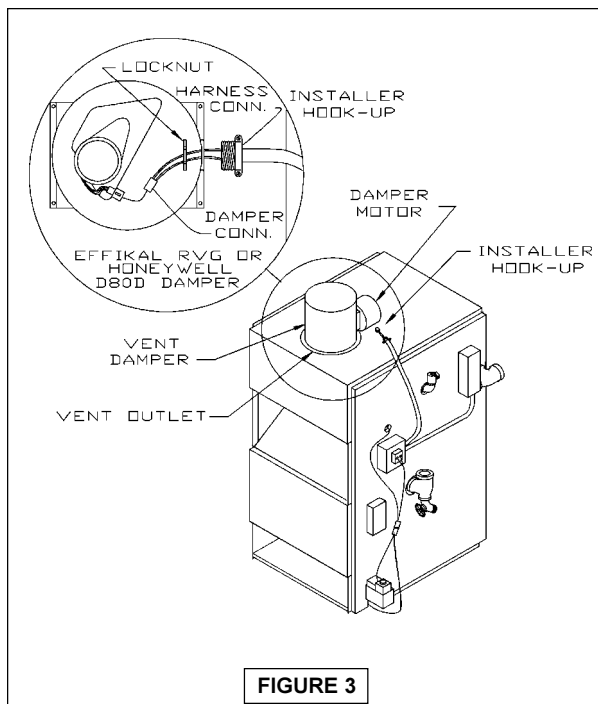

FIGURE 3
NOTE: Refer to Figure 3 below for steps 1 - 7.
8. Wire Damper in accordance with figure 3 below.